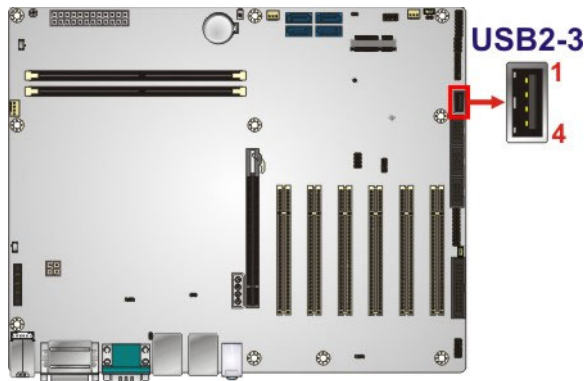

Figure 3-31: USB 2.0 Connector (Type A) Pinout Location
- CN Location:** See **Figure 3-31**